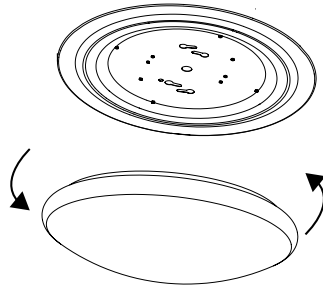

Figure 1
6. Mount the diffuser and twist into place (figure 1).